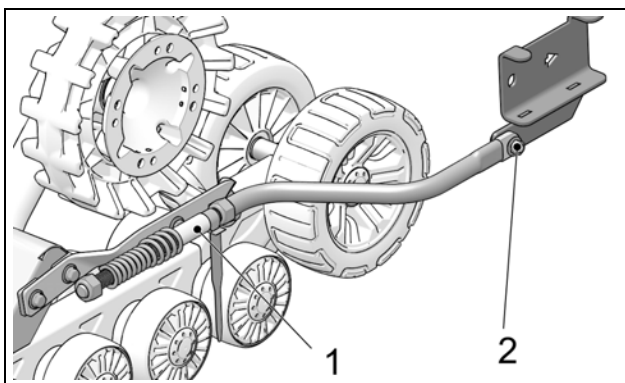

Figure 11
- Stabilizing arm (1) must be attached to Track System and to rear anchor bracket (2) installed on vehicle. See Figure 11.